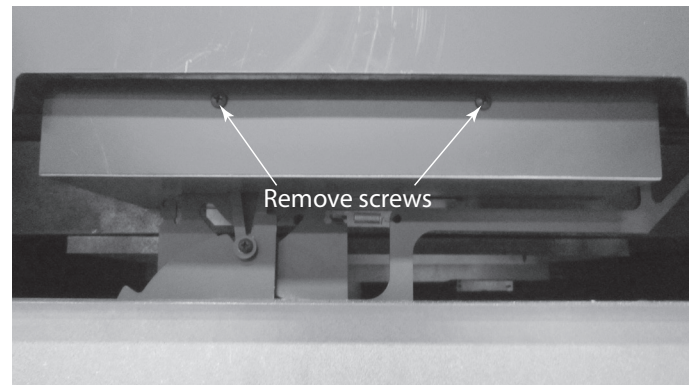
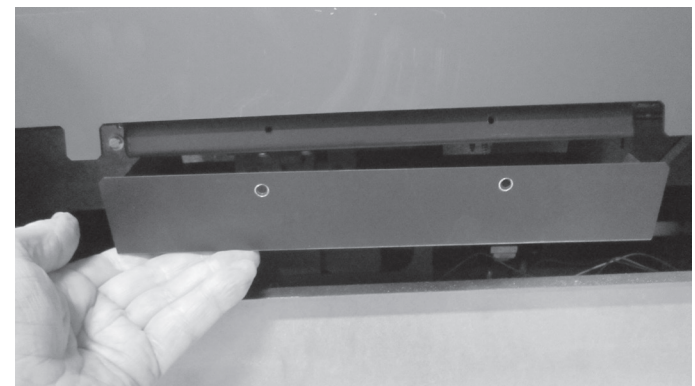

Figure 4.15 Removal of Screws on Air Chamber Cover
Figure 4.16 Removal of Air Chamber Cover
2. Remove the two (2) screws in the air chamber cover. See Figure 4.15. Pull it down and off. See Figure 4.16.